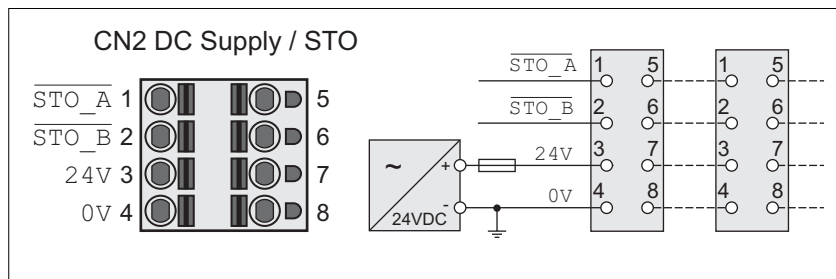

Figure 28: Wiring diagram controller supply
- Connection CN2, pins 3 and 7 as well as CN2, pins 4 and 8 (see Figure 28) can be used as 24V/0V connections for additional consumers. ¹ Note the maximum permissible terminal current ("Properties of connection terminals CN2").